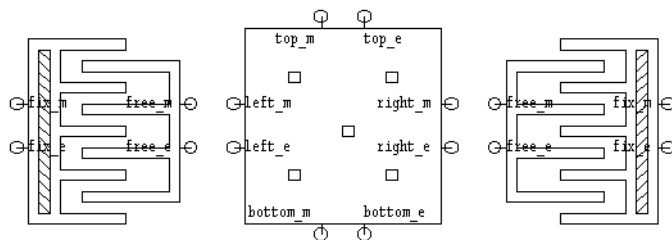

Figure 2: Aligning the comb-drives to the plate
- ☑ Move the comb-drives so that their connection pins, represented by circles, line up with the pins on the **plate4** instance (Figure 2) (see Pins on page 180 of the *S-Edit User Guide and Reference*).